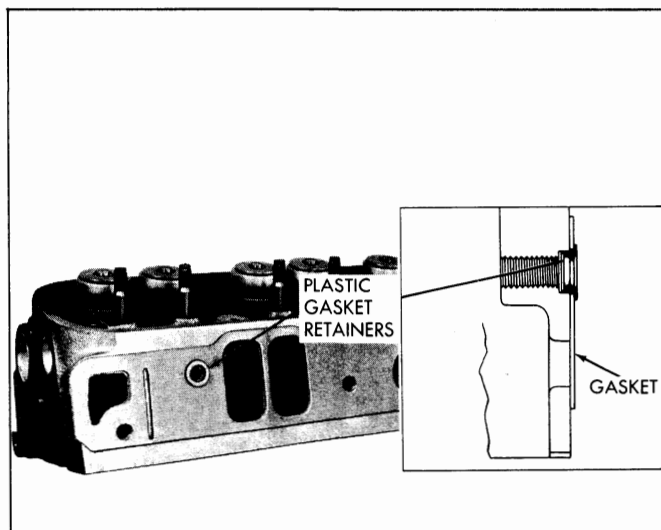

Fig. 6-22 Installing Intake Manifold Gasket
1. Install new gaskets on cylinder heads, positioning them with plastic retainers (Fig. 6-22).